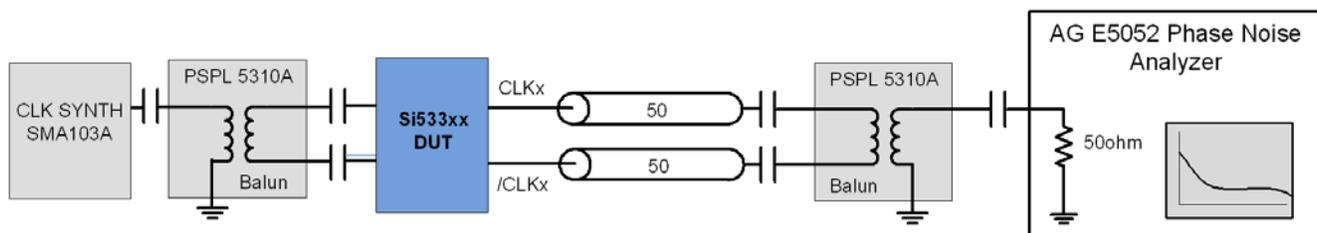

Figure 1. Differential Measurement Method Using a Balun
3. Measured differentially using a balun at the phase noise analyzer input. See Figure 1.
3. Measured differentially using a balun at the phase noise analyzer input (see Figure 1).